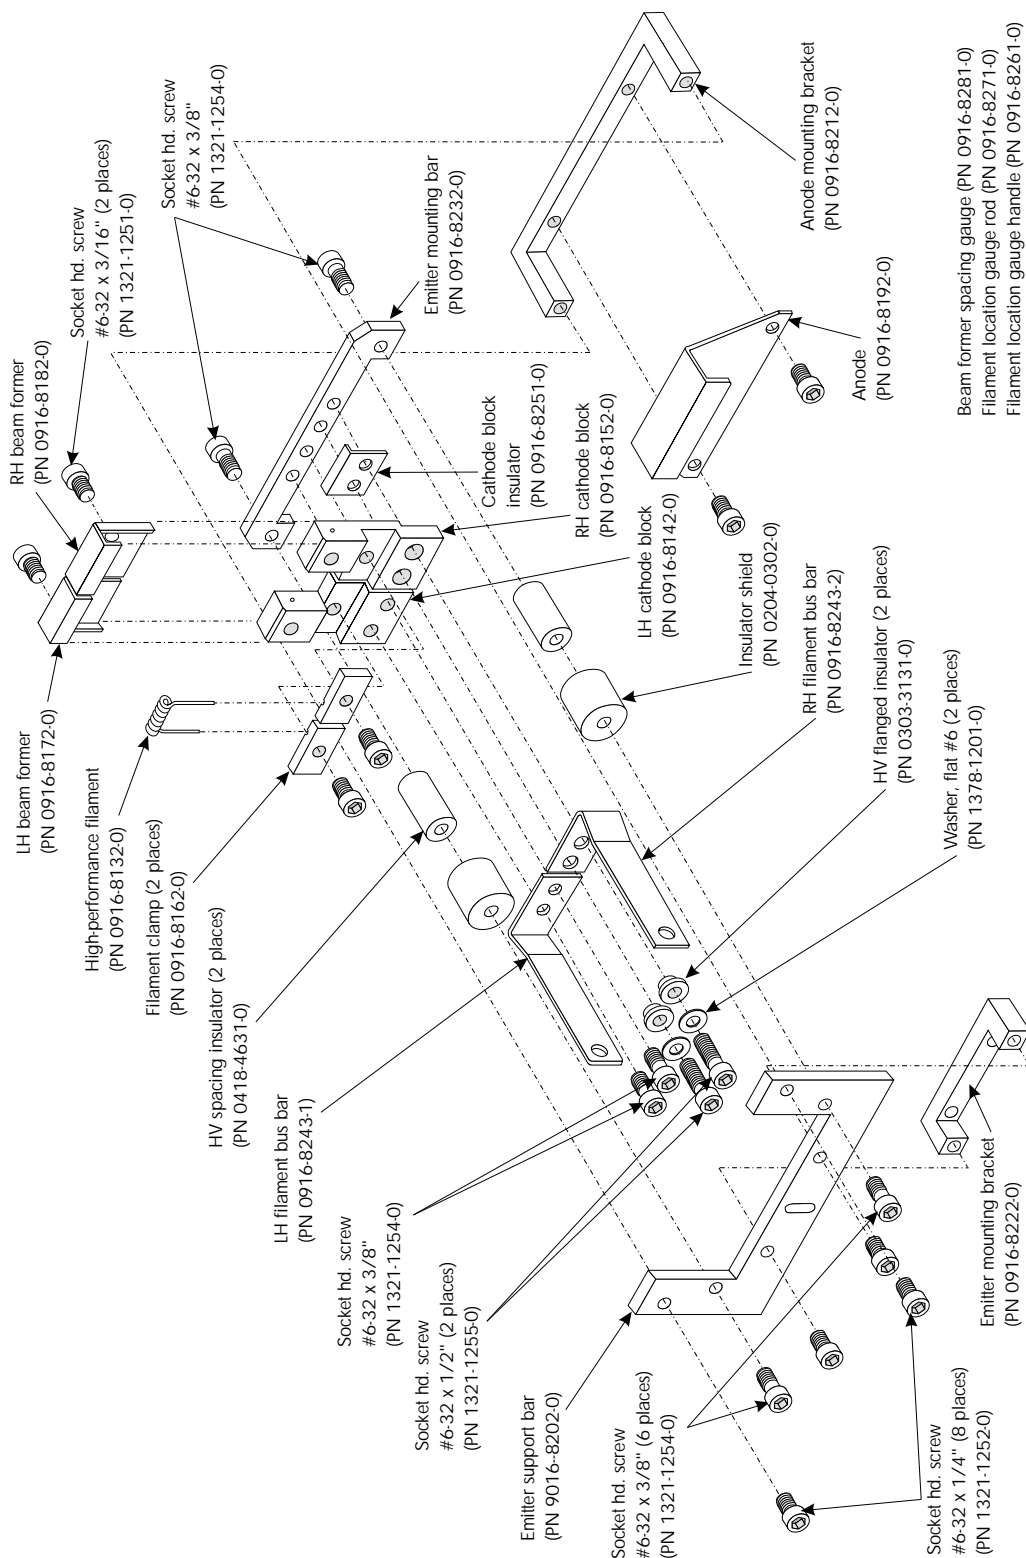

Figure 5-3. Exploded view of high-performance emitter
2. Examine all screws as you disassemble the emitter and replace any that show signs of thread damage or distortion. Damaged screws are likely to become frozen in place during subsequent source operation, resulting in breakage or thread stripping the next time you attempt to remove them. Coat all screws that you do reuse with molybdenum disulfide (ROCOL or equivalent). When replacing screws, use only stainless steel 6-32 socket-head screws of the correct lengths (see Figure 5-3). All screws must be vented so as to create a path through which gases trapped between the threads can be pumped out. To minimize virtual leaks, it is important that the underside of the screw's head as well as its threads be vented. For best results, use the screws that are available from Temescal, as they come machine vented in the correct manner.
| 5 | Put the cathode block insulator in place on the emitter mounting bar. Figure 5-3 indicates the insulator's correct position, with its top tab facing rearward and its holes aligned with the two right-hand holes in the emitter mounting bar. |